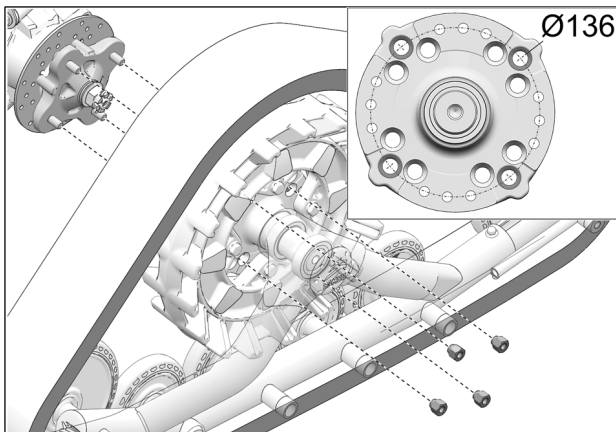

Fig. 9
9. Secure undercarriage to rear hub. Use bolt circle  $\text{Ø}136$  mm and the vehicle's own lug nuts. Refer to Fig. 9